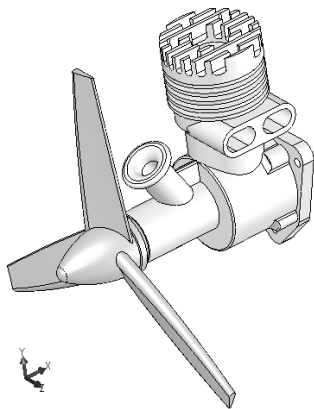

Figure 1-1 A Single Piston Engine (Unexploded View)
*SolidWorks Motion* is a computer software tool that supports engineers to analyze and design mechanisms. It is a module of the *SolidWorks* product family developed by *Dassault Systèmes SolidWorks Corporation*. This software supports users to create virtual mechanisms that answer general questions in product design as described next. A single piston engine shown in Figures 1-1 and 1-2 will be used to illustrate some typical questions, such as follows: